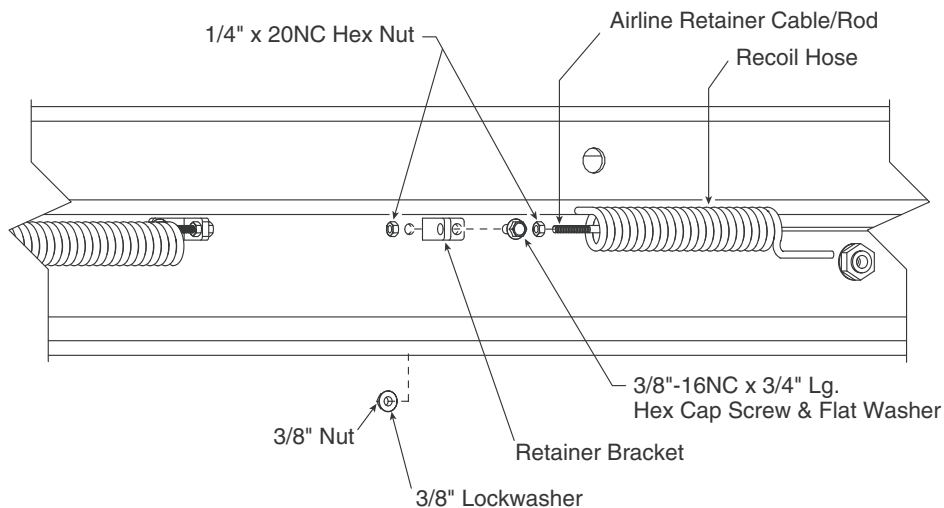

Fig. 35
- A. Attach retainer brackets for the rear recoil hose with 3/8"-16NC x 3/4" Lg. hex cap screw, flat washer, lock washer and nut, Fig. 35.
- B. Insert retainer cable through coils of recoil hose, Fig. 35. Run a 1/4"-20NC hex nut down onto each end of retainer cable. Insert each end of cable into retainer brackets. Secure each cable end with another 1/4"-20NC hex nut. Tighten jam nuts, Fig. 35.
- A. Insert retainer cable through coils of recoil hose, Fig. 35. Connect one end of recoil hose to coupling welded on rolling jack, Fig. 38 and 39.